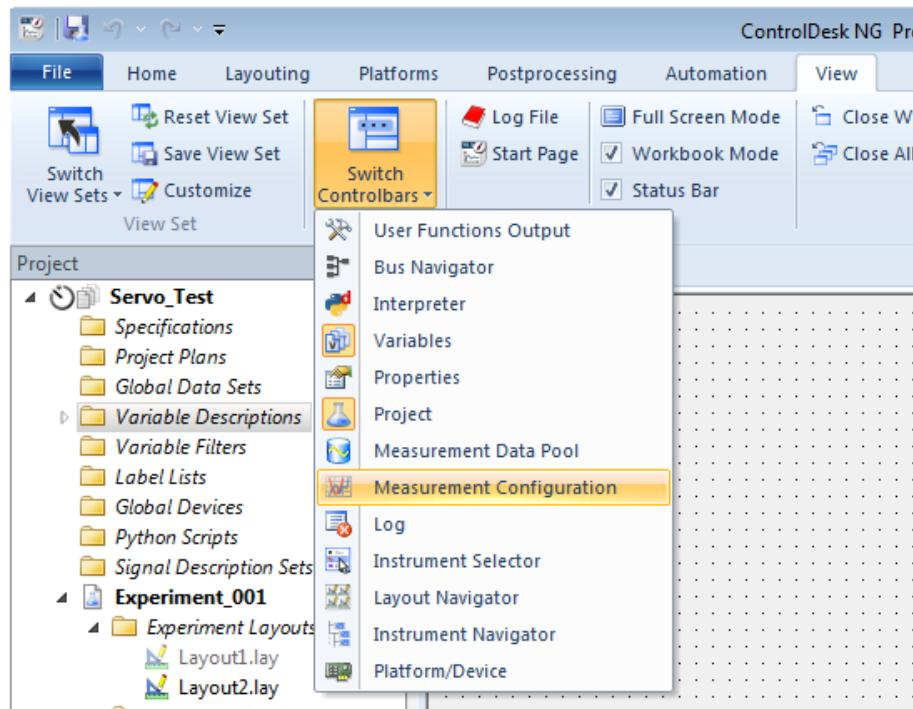

Figure 49: Activation of the recording tool bar
1. To be able to work with historical data of the variables, it is necessary to record their behavior during a real time experiment, and export them to a file. To analyze the data in MATLAB, a file can be generated with the recorder tool of ControlDesk. To display the 'Measurement Configuration' bar, go to the tab 'View', click on 'Switch Controlbars' and select 'Measurement Configuration', as seen in figure 49